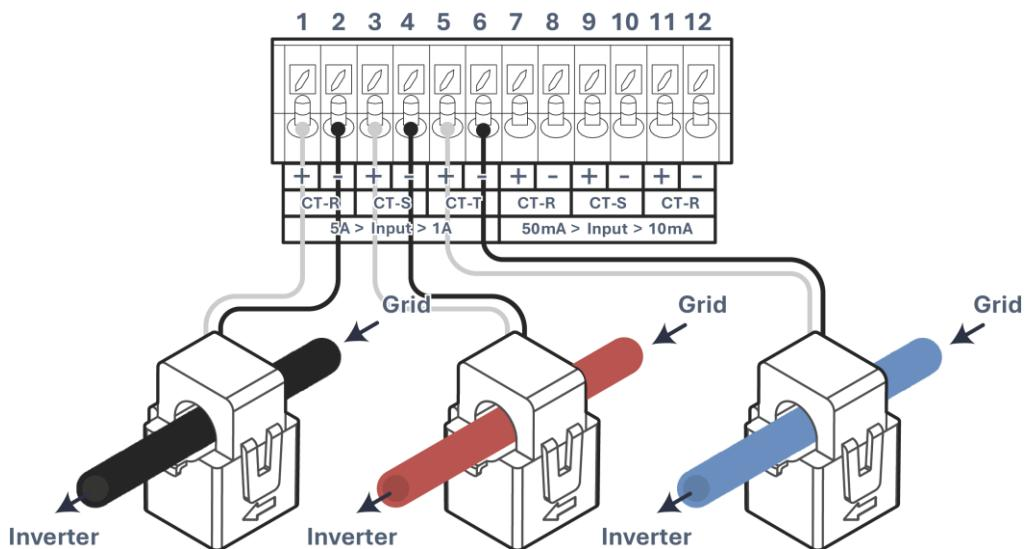

Figure 14: CT to Inverter Wiring
2. Figure 14: CT to Inverter Wiring below.
To program the inverter with the correct CT ratio, begin by going to the **⚙ → Basic Setup → Advanced** screen of the inverter, as shown in Fig. 14. The correct CT ratio can be calculated by dividing the primary side current by the secondary side output current, the resulting number should be multiplied by 100 before entering it into the CT Ratio setting on the inverter.